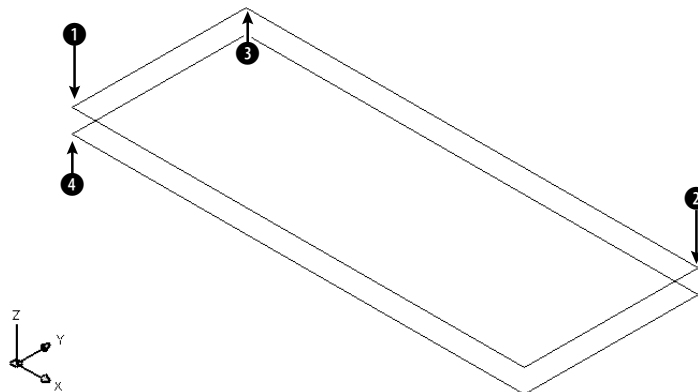
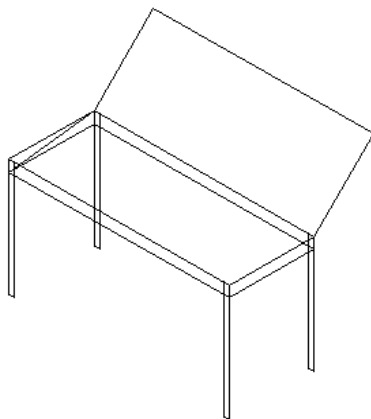

**Figure 21-8:** The two rectangles, shown from Southeast Isometric view.
**Figure 21-9:** The completed wireframe piano bench.
5. Choose **View** ⇨ **3D Views** ⇨ **SE Isometric**. Now you can see the two rectangles, as shown in Figure 21-8.
Specify first point: *Pick the endpoint at ❶ in Figure 21-8.*
11. To draw an open cover for the piano bench, start the LINE command. Start it at the endpoint at ❷ in Figure 21-8. At the Specify next point or [Undo]: prompt, type **@15<90<45** ↵. You know the length of the line because the cover is the same as the width of the piano bench. At the Specify next point or [Undo]: prompt, turn on ORTHO, move the cursor parallel to the length of the bench, and type **39**. At the Specify next point or [Close/Undo]: prompt, use the Endpoint object snap to pick ❸. End the LINE command. Zoom out and pan so that you can see the entire bench.
12. Turn dynamic input off by clicking the DYN button on the status bar. (Dynamic input doesn't support cylindrical coordinates very well.) To draw some bracing inside the bench, start the LINE command again. At the Specify first point: prompt, choose the endpoint at ❹. At the Specify next point or [Undo]: prompt, type **@15<90,2** ↵. End the LINE command. Here, cylindrical coordinates are ideal because you don't know the length of the line but you know the change in the X and Z coordinates (the width and the height of the bench's body, respectively).
13. Save your drawing. It should look like Figure 21-9.